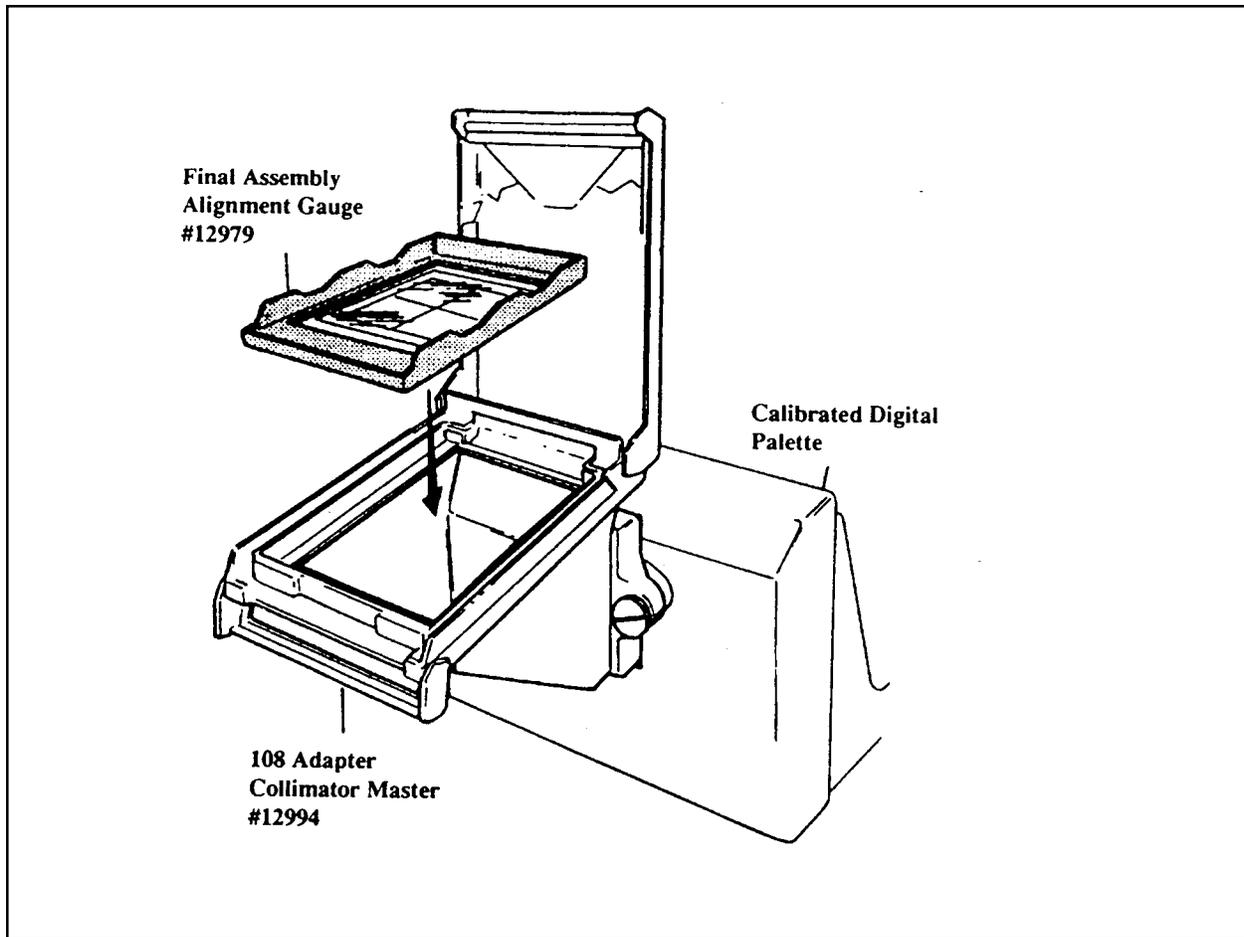

Figure 5-1. Electrical/Final Assembly Alignment of the CRT
4. Install #12994 108 Adapter Collimation Master on the Digital Palette (Figure 5-1).
5. Insert the Final Assembly Alignment Gauge #12979 onto the 108 Collimation Master (Figure 5-1).